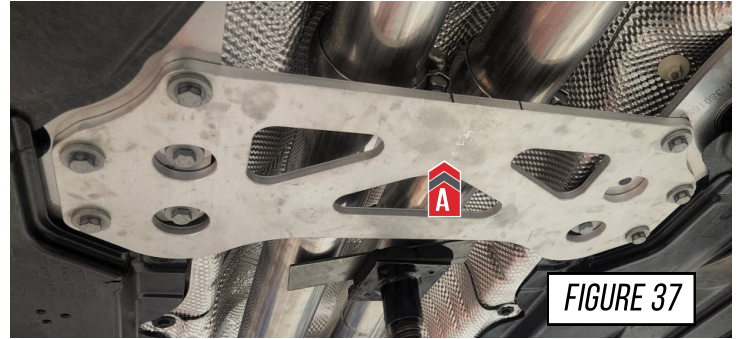

FIGURE 37
Re-install the OE chassis brace (A) using the OE hardware, as shown in **Figure 37**.